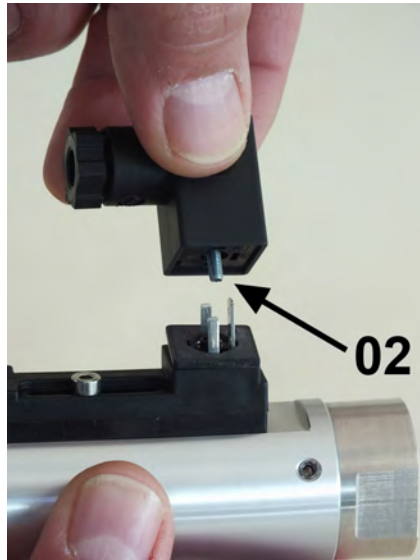

Fig. 22: Remove socket
2. ➔ Remove the socket (Fig. 22/02).